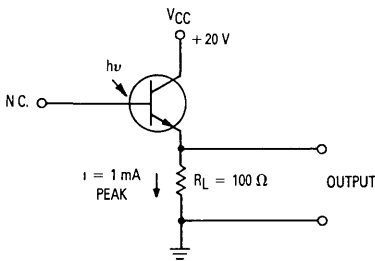

Figure 5. Pulse Response Test Circuit and Waveform
- 1 Radiation flux density (H) equal to 5 mW/cm^2 emitted from a tungsten source at a color temperature of 2870 K
- 3 For saturated switching time measurements, radiation is provided by a pulsed xenon arc lamp with a pulse width of approximately 1 microsecond (see Figure 5).
- 4 For unsaturated switching time measurements, radiation is provided by a pulsed GaAs (gallium-arsenide) light-emitting diode ($\lambda = 940\text{ nm}$) with a pulse width equal to or greater than 10 microseconds (see Figure 5)